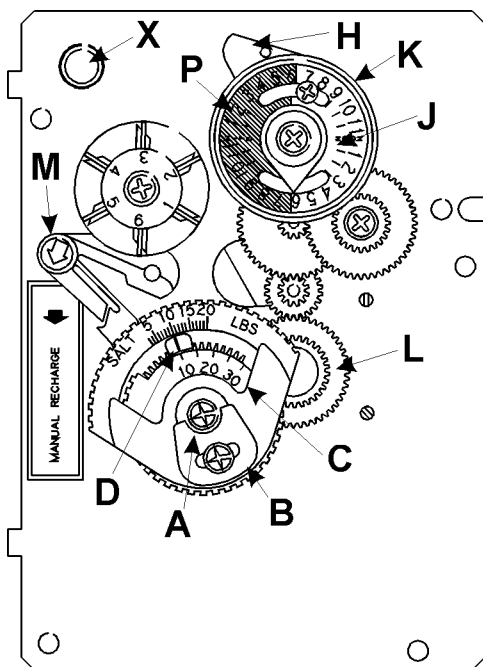

FIG. 8
If backwash time adjustment is needed, refer to Fig. 8.
The timer is factory set to recharge about 2:00 a.m., a time when water usage is at a minimum for most families. If water is drawn during recharge, hard water will automatically be bypassed to service. If it would be more convenient to have the water conditioner recharge at a different time of day, the setting may be changed as follows, referring to Fig. 8.
Upon completing the installation, the timer must be set to the correct time of day. Time of day must also be reset after any kind of power interruption, such as that caused by an electrical storm. See Fig. 8.
The timer assembly is in the service position when the toothless notch in the cam gear is over the teeth on the idler gear (L). The timer will return to this position after each recharge (Fig. 8).
To set the salt dosage, refer to Fig. 8. Loosen screw (A) and rotate outer dial until the salt dosage dial line up with the indicator mark (D). Tighten screw (A).